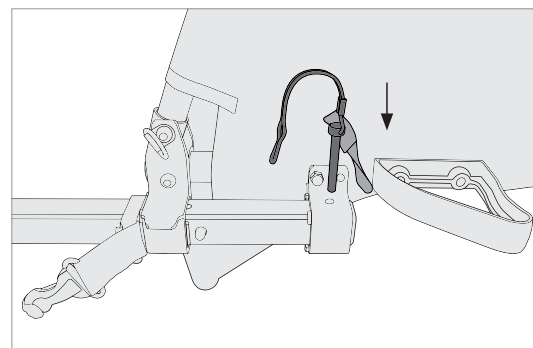

Figure 9
2. Insert the retaining pin from the top through the aligned holes (Figure 9).